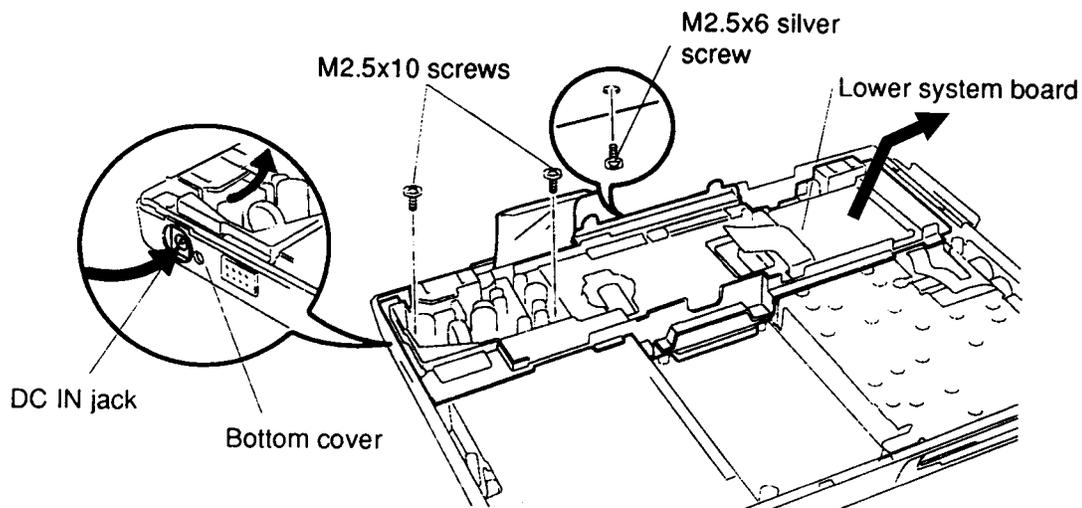

Figure 4-19 Removing the Lower System Board Assembly
5. Remove the **M2.5x6 silver screw** from the bottom of the computer (Figure 4-19).
6. Remove the **two 2.5x10 screws** located next to the power supply circuits on the **lower system board** (Figure 4-19).
7. Turn the assembly over, and place the lower system board assembly into the computer's chassis, inserting the **DC IN jack** into the opening on the left side of the chassis (Figure 4-19).
9. Secure the **M2.5x6 screw** on the bottom of the unit (Figure 4-19).